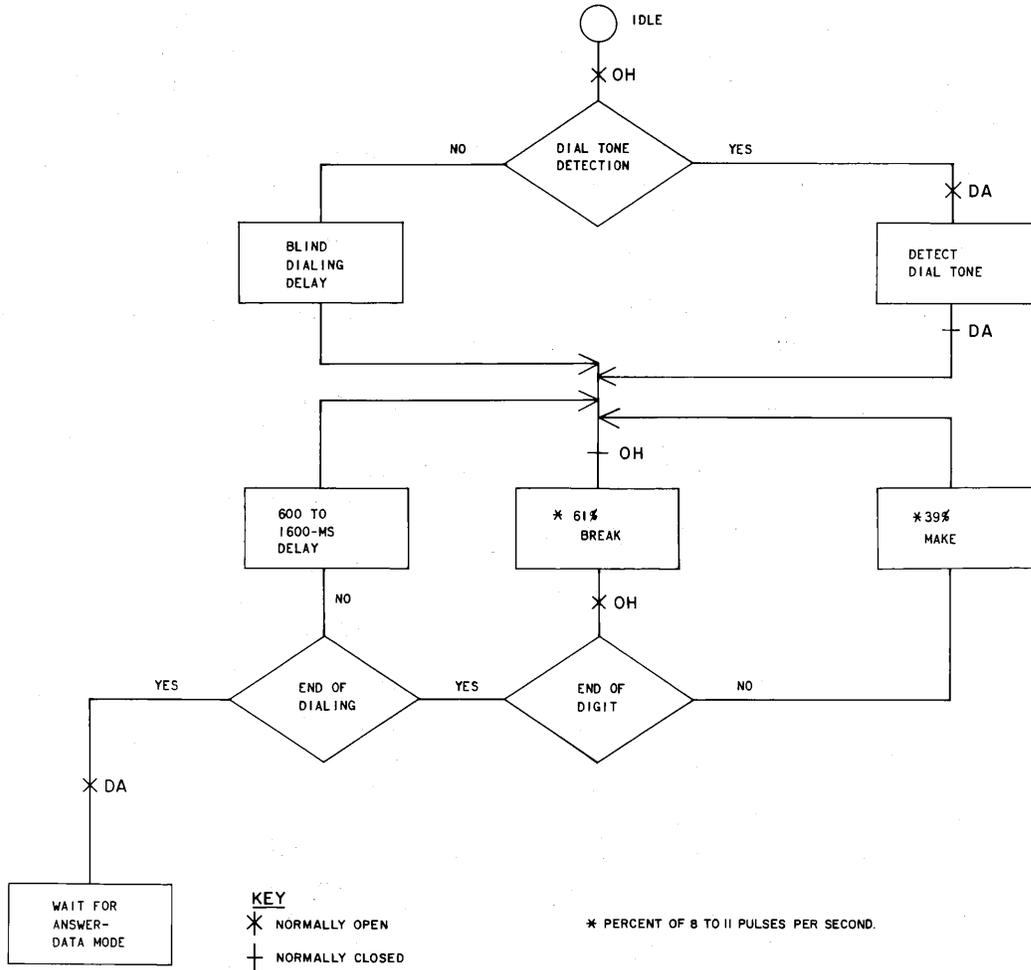

Fig. 4—Customer Automatic Calling Sequence Diagram—DC Dial Pulsing
2.21 Call Origination (Dial-Pulsing): The customer can originate a call by dial pulsing (rotary dial) or tone-address signaling (eg, TOUCH-TONE). A positive (ON) voltage applied to the OH interface lead, either as a call origination or as a transfer from a manually originated call, will cause the OH relay to provide the off-hook function as previously described. A negative (OFF) voltage applied to the lead causes the OH relay to drop and open the telephone loop. Also, the circuit between the KA lead and the KA1 lead is opened. This sequence of operation permits the data terminal to generate dial pulses for call origination when dial tone is present. The pulsing sequence and timing requirements are as follows (Fig. 4):